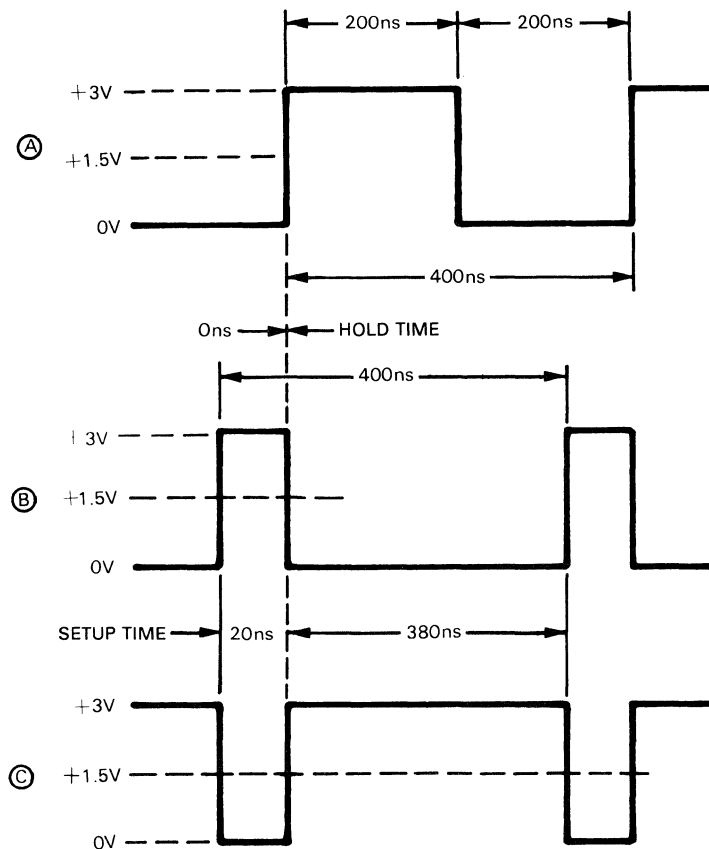

Figure 4-10. Data Setup and Hold Time Test Waveform
- e. Adjust pulse generators 1 and 2 for output waveforms A and B respectively as shown in figure 4-10.
- h. Adjust pulse generator number 2 for output waveform C as shown in figure 4-10.